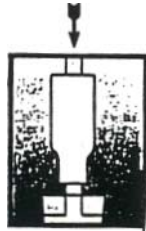

Figure 2: Pour-through filter.
- pour-through, portable (Figure 2),
Pour-through (portable) filters freshen water on recreational vehicles, boats or at campsite, if one starts with water suitable for drinking (potable water). (See Figure 2.) This type, if not powered, is the simplest of all filters. Water, poured through the filter, flows into a container. A few models are powered and operate on 115-volt current; others operate on a 12-volt line or battery. Powered units increase rate of filtration. Some of those operating on a 12-volt battery can filter up to 1¼ gallons (4.7 liters) in two minutes.